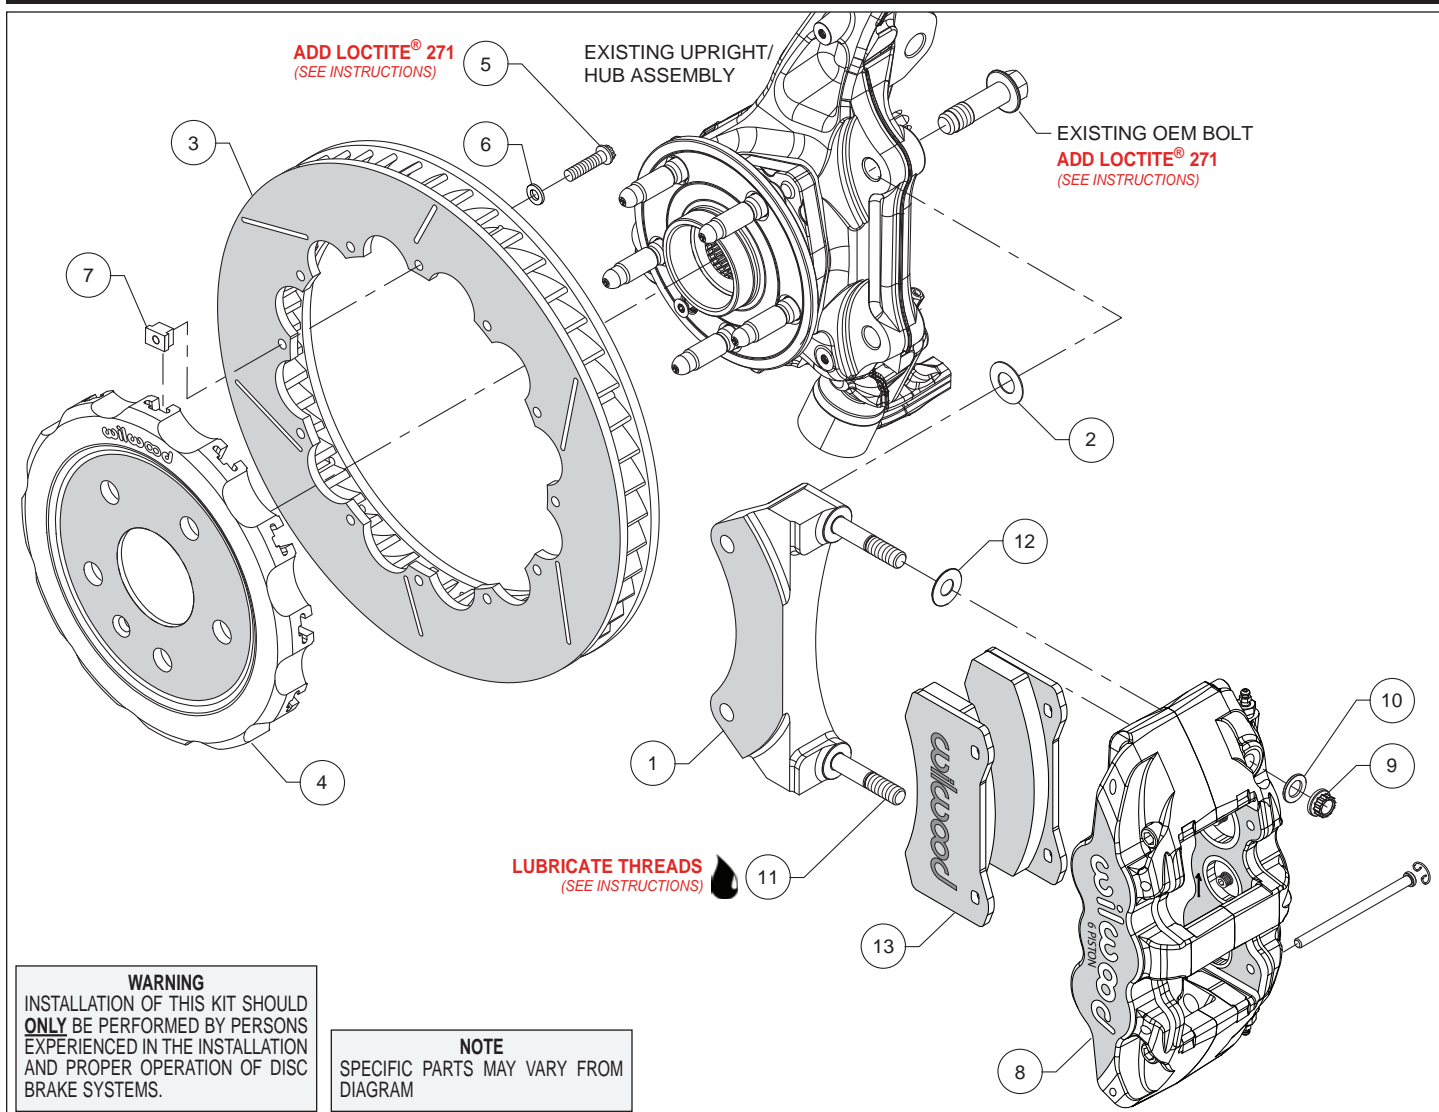
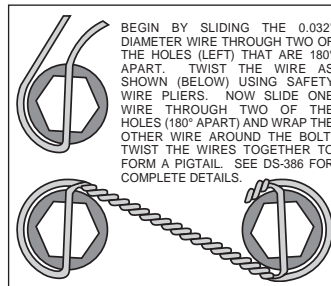

Figure 1. Typical Installation Configuration
Figure 4. Safety Wire Diagram
Assembly Instructions (numbers in parenthesis refer to the parts list and Figure 1 on the preceding pages):
- The caliper mount bracket (1) should initially be installed with clean, dry threads on the mounting bolts. Orient the bracket, as shown in Figure 1 and Photo 1, and install using saved OEM caliper mounting bolts. Initially place one .029" thick shim (2) on each bolt between the bracket and upright, Figure 1. Temporarily tighten the mounting bolts. **NOTE:** The bracket must fit squarely against the mount bosses on the upright. Inspect for interference from casting irregularities, machining ridges, burrs, etc. Later, after the caliper alignment has been checked, the mount bolts will be secured using red *Loctite*® 271.
- Orient the rotor (3) and the hat (4) as shown in Figure 1 and Photo 2. Attach rotor to hat using bolts (5), washers (6), and t-nuts (7), Figure 1. Follow additional instructions included with the bolt kit. Using an alternating sequence, apply red *Loctite*® 271 to the threads, and torque to 120 **in-lbs**. For an added measure of security, the bolts may be safety wired using standard 0.032 inch diameter stainless steel safety wire as shown in Figure 4. Refer to Wilwood's data sheet DS-386 (available at www.wilwood.com/Pdf/DataSheets/ds386.pdf) for complete safety wire installation instructions.
- **NOTE:** This kit contains distinct right and left hand calipers that must be mounted in a specific direction, as described below. Lubricate the caliper mounting studs (11) with lightweight oil. Initially place one .030" thick shim (12) on each stud between the caliper and the bracket, as shown in Figure 1 and Photo 3. Mount the caliper (8) onto the bracket (1) using lock nuts (9) and washers (10), Figure 1. Temporarily tighten the lock nuts. Ensure that the caliper is mounted so the largest pistons are at the rotor exit end of the caliper, in relation to the direction of the rotor. View the rotor through the top opening of the caliper. The rotor should be centered in the caliper, Photo 4. If not, adjust by adding or subtracting shims (2) between the bracket and the upright. Always use the same amount of shims on each of the two mounting bolts. Once the caliper alignment is correct, remove the bracket mounting bolts one at a time, apply red *Loctite*® 271 to the threads, and torque to manufacturer's specifications.
- Remove the two pad retaining pins from the caliper (8) by carefully popping out the pin retaining clips and sliding out the pins. Insert the brake pads (13) into the caliper from the bottom, Figure 1 and Photo 5. With the friction material facing the rotor, secure the brake pads in place with the pad retaining pins and clips, Photo 6. Reinstall the caliper onto the caliper mounting bracket and temporarily tighten the lock nuts. Check that the top of the brake pad is flush with the outside diameter of the rotor, Photo 7. If not, adjust by adding or subtracting shims (12) between the caliper and the bracket. After the caliper pad height is set, torque the caliper lock nuts (9) to 47 ft-lb.